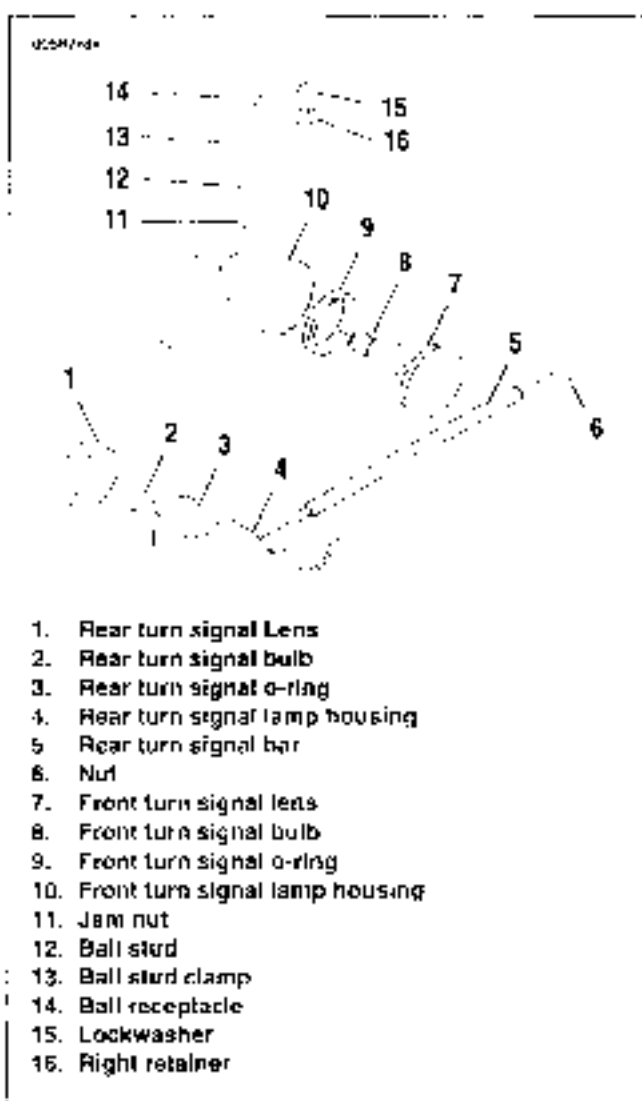

Figure 8-40. FXDXT Turn Signals
1. See Figure 8-40. Front turn signals. On right side, hold right retainer (16) and loosen ball stud clamp (13) to remove turn signal. On left side, remove acorn nut from mirror, loosen jam nut (11) and remove ball stud clamp (13) to detach turn signal.
2. See Figure 8-40. Rear turn signals. Loosen nut (6) and unscrew rear turn signal lamp housing (4) from turn signal bar (5).